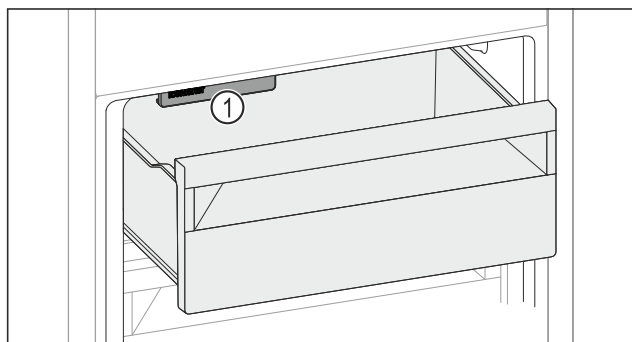

Fig. 155
- ▶ Uzmite u obzir IceMaker Fig. 155 (I).